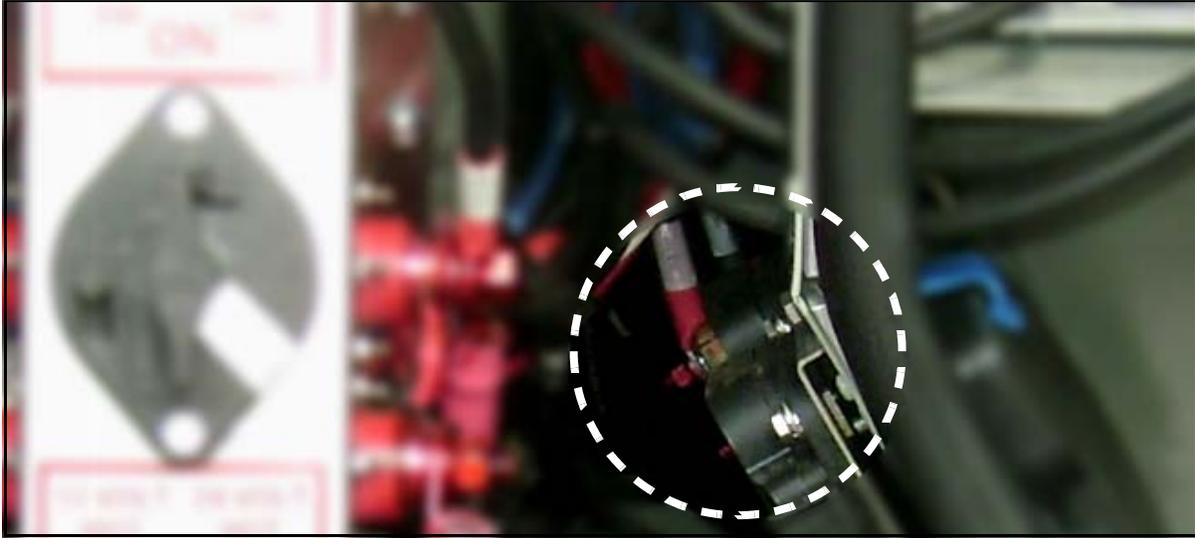

Figure 1. Curbside view of battery compartment.
9. In the battery compartment, locate the fuse holder assembly and 24 V power stud cable shown in Figures 1 and 2.